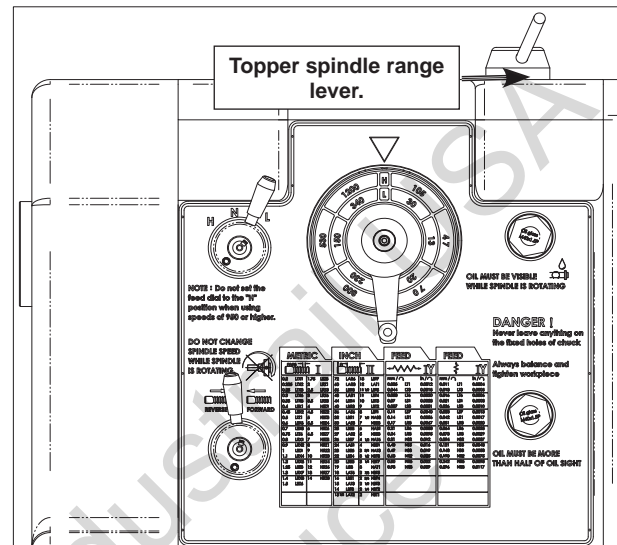

Figure 19. Headstock range lever.
4. Move the topper spindle range lever so that the indicator points to the L. (Figure 19)
5. Rotate the spindle speed lever so that the indicator points to the Lowest spindle speed. (Figure 19)